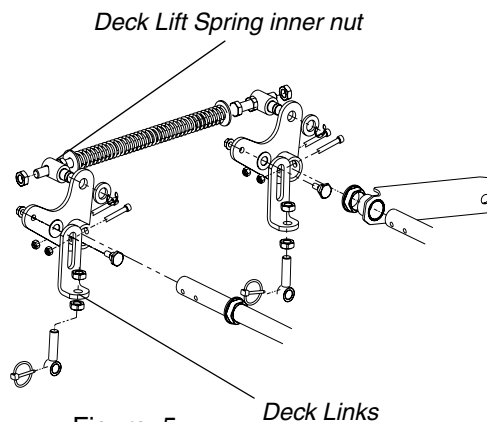

Figure. 5
- c. If the dimension at the front of the mowing deck is 1/8"-1/4" lower than the dimension at the rear of the deck on each side of the mower, do not adjust. If not, you will need to adjust the Deck Lift Spring Assist (See Figure 5). You may also need to adjust the Deck Links (See Figure 5).